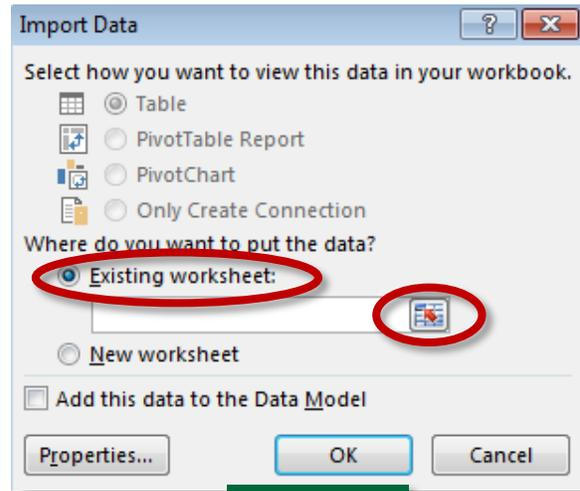

Figure 11
- In the 'Import Data' pop-up window (Figure 11), select 'Existing worksheet' and click the button on the right to navigate to the folder containing the text file specified at the start of data collection.